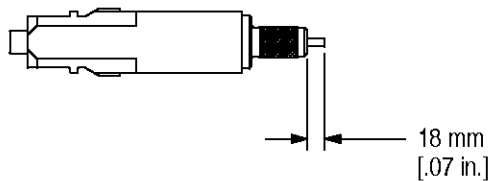

Figure 7
4. Insert the small diameter tubing into the plunger of the plug assembly until it protrudes 18 mm [.07 in.] from the knurled end of the plug assembly. See Figure 7.